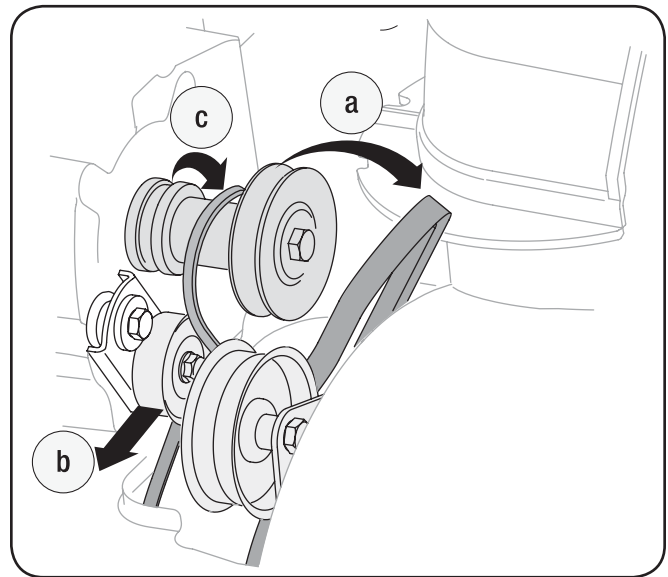

Figure 7-6
- Roll the auger belt off the engine pulley. See Fig. 7-6: